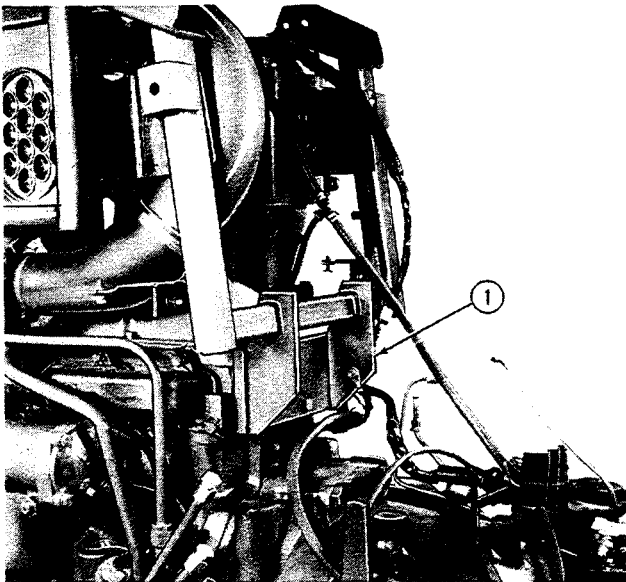

Figure 8
2. Remove the intercooler support bracket at the rear of the engine, Figure 8.